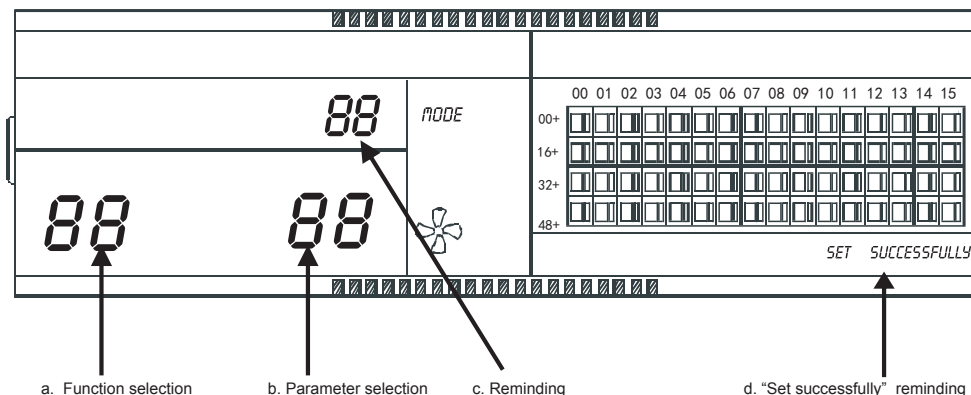

Fig 2.9 Filter net in addition to the dust function involves of show a contents
① Dial the dial code 3 to "ON", select the "Has optional function" referring to table 2.1 to , and then power on the centralized controller, in 1 minute press "QUERY" key and hold on then press "FAN" key, enter to optional function setting. Dual eight represented function selection (Fig.2.9 a) will be flashed with 1Hz frequency (default display 00), display the optional function code (see table 2.2). Press "INC" and "DEC" keys to select function, and then press "OK" key to enter parameter selection.
② After enter parameter selection, dual eight represented function selection will be lighted on, dual eight represented parameter selection (Fig.2.9 b) will be flashed with 1Hz frequency, display optional parameter code. Through pressing "INC" and "DEC" keys to select the detailed parameter.
③ Press "OK" to confirm parameter selection (details parameter codes' corresponding time refer to table 2.3).
④ After setting successfully, Dual eight represented function selection and dual eight represented function selection will be lighted on, the screen will display "Setting successfully" (Fig. 2.9 d). After 3 seconds will auto exit optional function setting. The screen will back to normal display.